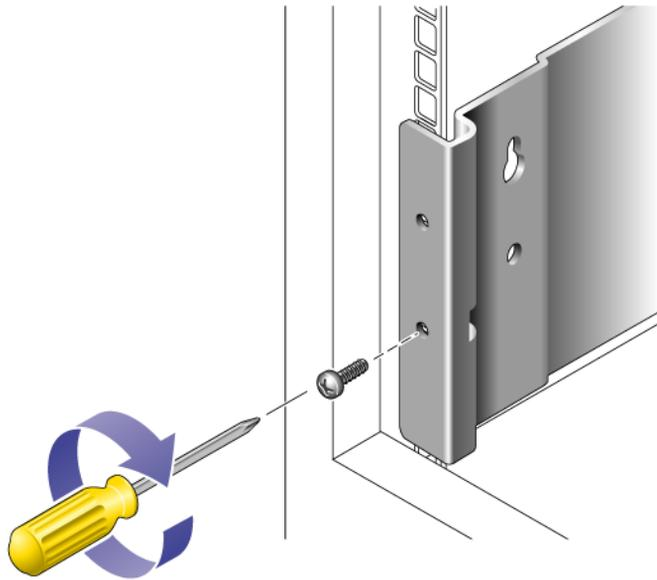

FIGURE 2-16 Securing the Rail to the Back of the Cabinet
- 6. Insert and tighten a screw appropriate for the cage nut to secure the rail to the back cabinet rail (FIGURE 2-16).**